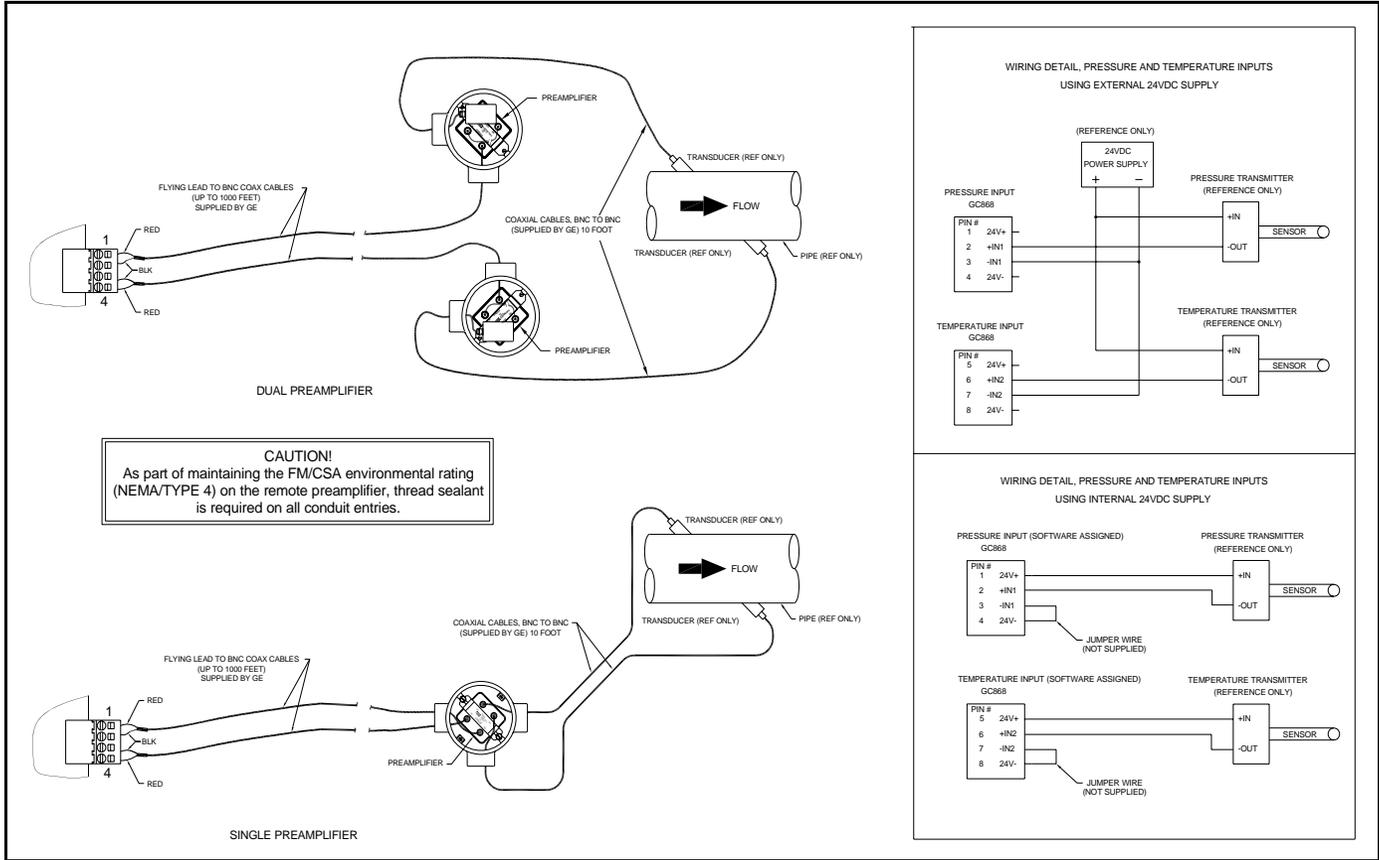

Figure 1-43: Model GC868 Transducer Wiring (ref. dwg #702-213, sht 2 of 2)
3. Using the pair of coaxial cables with BNC to flying lead connectors supplied by GE (or equivalent cables), connect the preamplifier to terminal block CH1 in the electronics console. Refer to Figure 1-43 on page 1-44 for the location of the terminal block and the terminal block pin assignments.